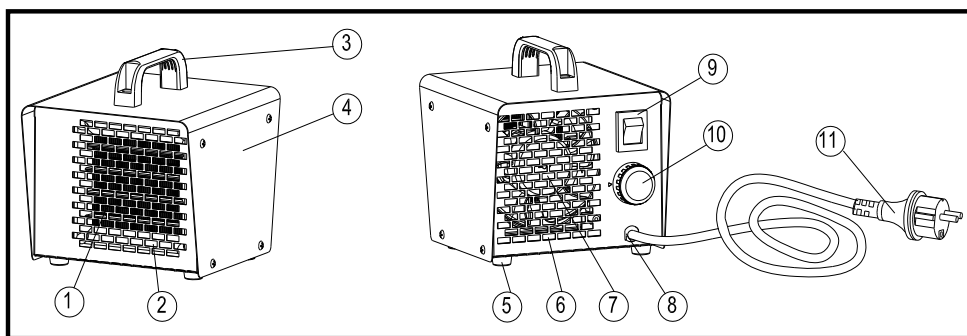

Fig. 1
- ▶ The device should be carried by a handle No. 3 in Fig. 1.
See Figs. 1.